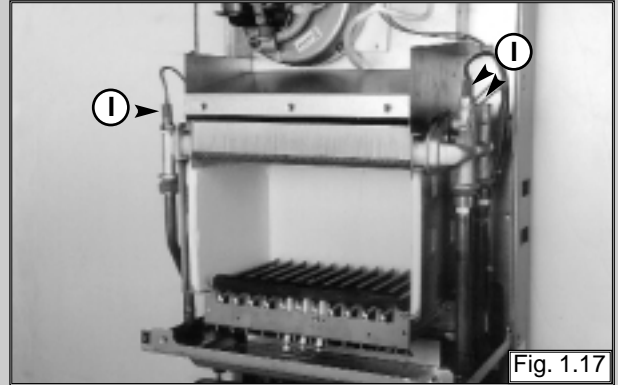

FIG. 1.17
2. Remove the overheat thermostat sensor, D.H.W. sensor and heating sensor "I" (FIG. 1.17);